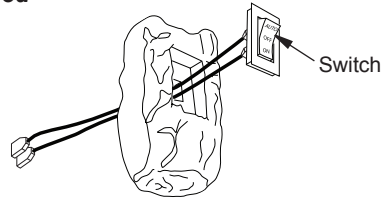

Figure 18 - Installing AUTO/OFF/ON Switch
1. **VCG and EC Models:** Slip wires of switch assembly through hole in center of log (see Figure 18).